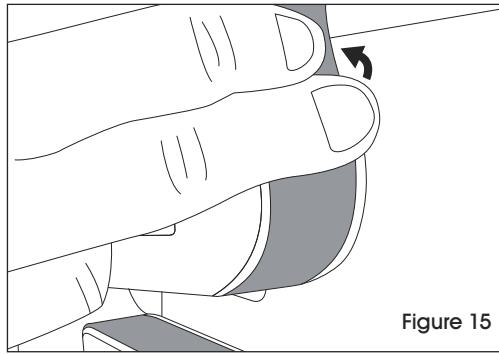

Figure 15
7. Lay tape over heating element and wrap around heating block. (See Figure 15)